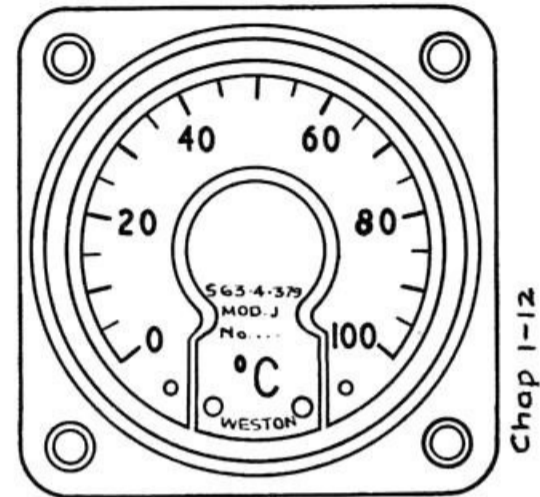

Fig. 1. Indicator, Type S63.4.379
1. This indicator (Ref. No. 6A/5896) (fig. 1) is calibrated in degrees C from 0 to 100; the indicator is controlled by variation of temperature in a resistance bulb which obeys a platinum law.